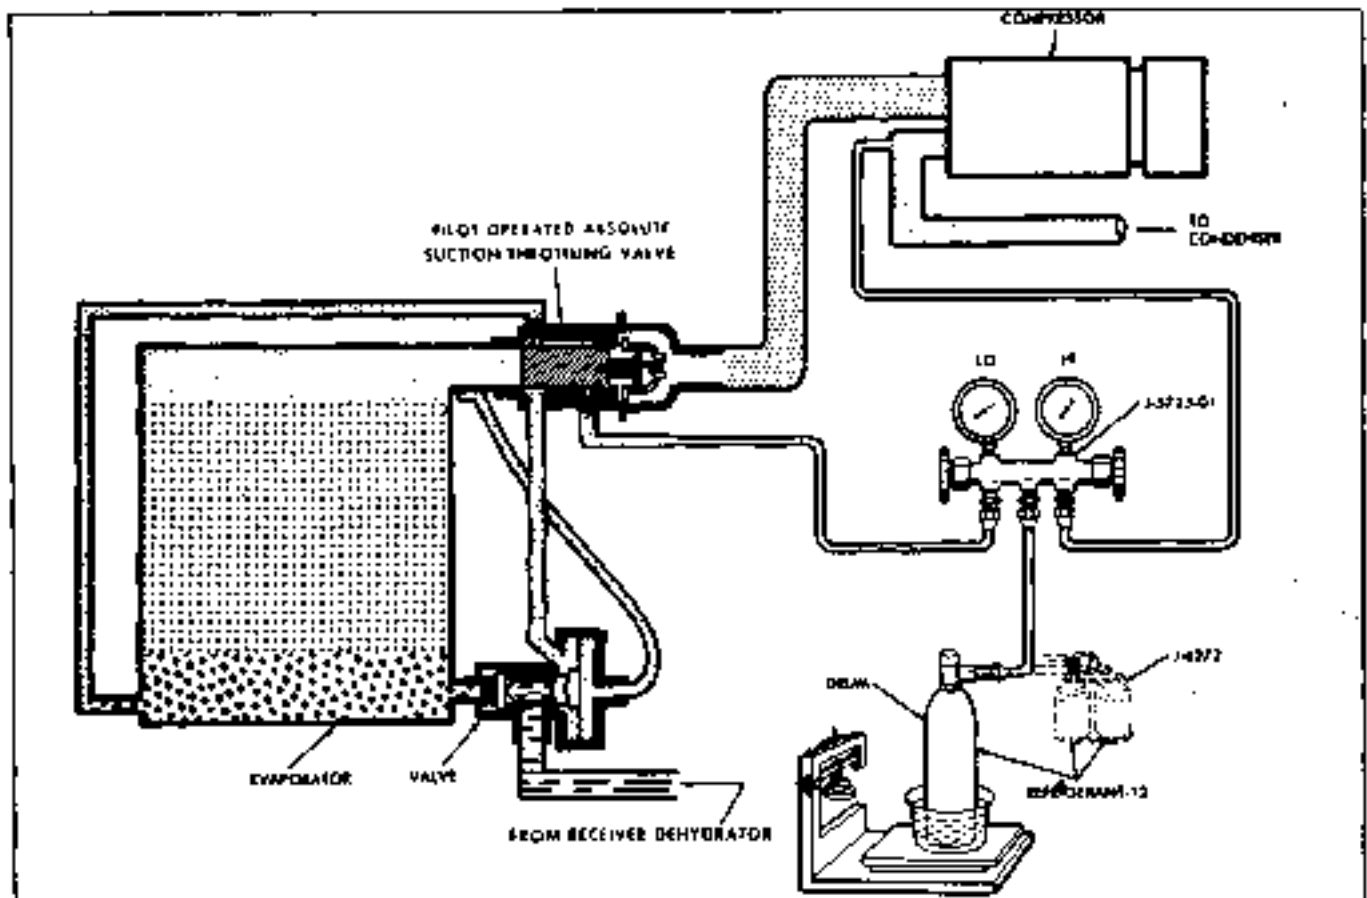

fig. 1A-3 Schematic - Charging Refrigeration System
3. Place refrigerant drum (in pail of water) on scales (bathroom or commercial, preferably commercial), Fig. 1A-3.